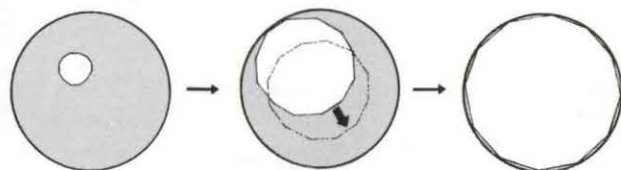

Fig. 2
- (1) Turn the high/low magnification lever ① to position "L".
- (2) Place a specimen on the mechanical stage and use the objective 10x to bring the specimen in focus.
- (3) Stop down the field iris diaphragm with knurled ring ②. A slightly blurred image of the field diaphragm can now be seen in the eyepiece.
- (4) Move the condenser up and down to focus on the image of the field diaphragm.
- (5) While widening the diameter of the field progressively, use the condenser centering knobs ③ to bring the diaphragm image into the center of the field of view. If the polygonal image of the iris diaphragm becomes inscribed in the field it means that the field diaphragm is centered. Slightly increase diameter of the field iris diaphragm until it is just outside the field of view. (Fig. 2)